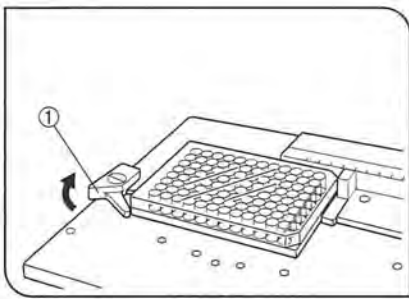

Fig. 14
With the IX-MVR Mechanical Stage + IX2-SP Stage (Figs. 14 & 15)
(Figs. 14 & 15)
1. Open the spring-loaded finger of the specimen holder ① and slide the microtiter plate into the holder frame. Gently release the curved finger to clamp. (Fig. 14)